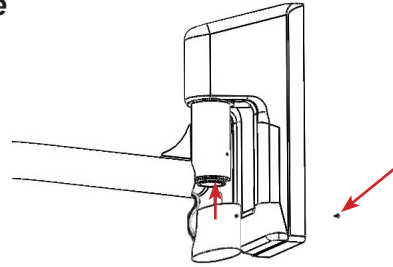

FIGURE 2.11 - Rotary Cap
STEP 5: Feed the wire harness and rotary cap back into the extension arm coupling. Slide forward and secure the cap with the phillips screw. Refer to FIGURE 2.11